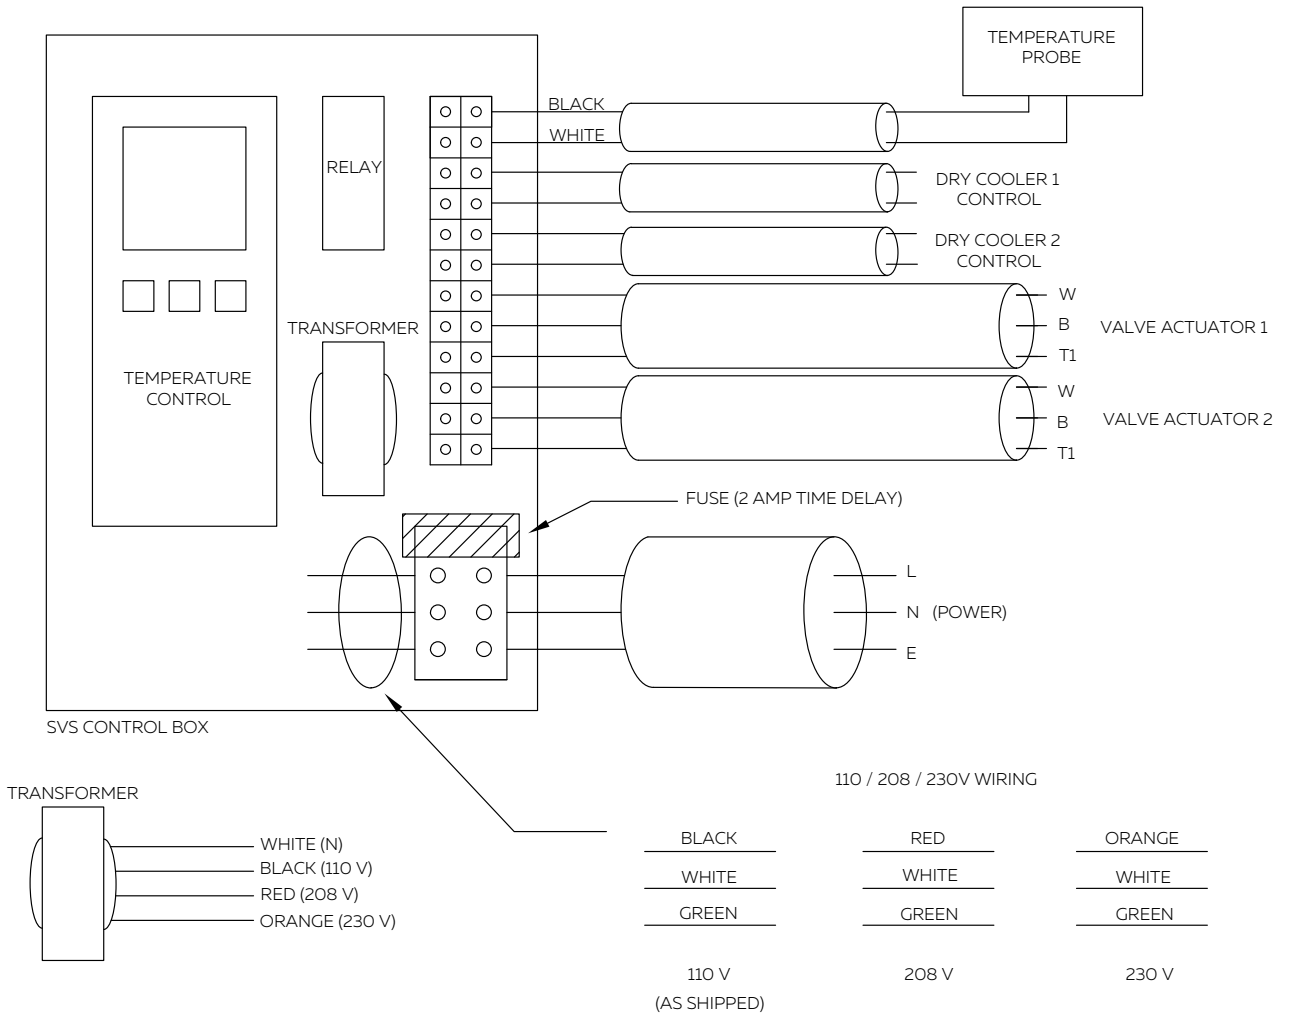

Figure 4 - SVS control box wiring diagram
3. Surna SVS control box (**figure 4**)
Figure 4 is a wiring diagram for the SVS Control Box. Use this figure as a reference for the following sections.